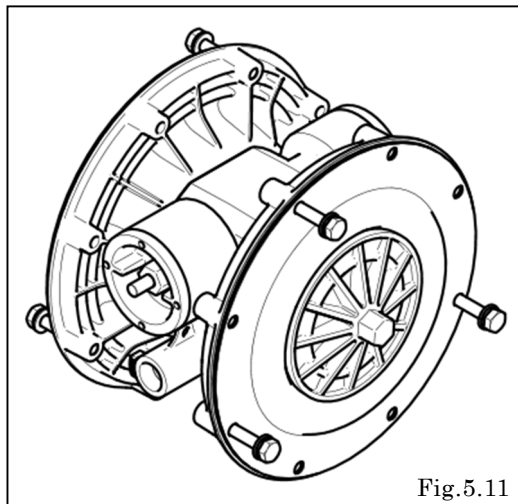

Fig.5.11
- Put three bolts through the holes on the diaphragm, and temporarily fasten them to the air-chamber. <Fig.5.11>